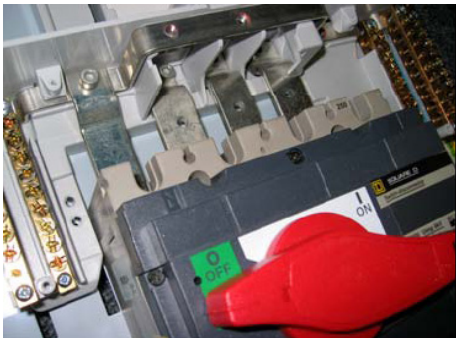

Fig 3
- Locate the incoming device under the main busbar connections so that the terminals align with the fixing holes provided. When fitting a 3P MCCB the neutral link is mounted on the left.(Fig 3).